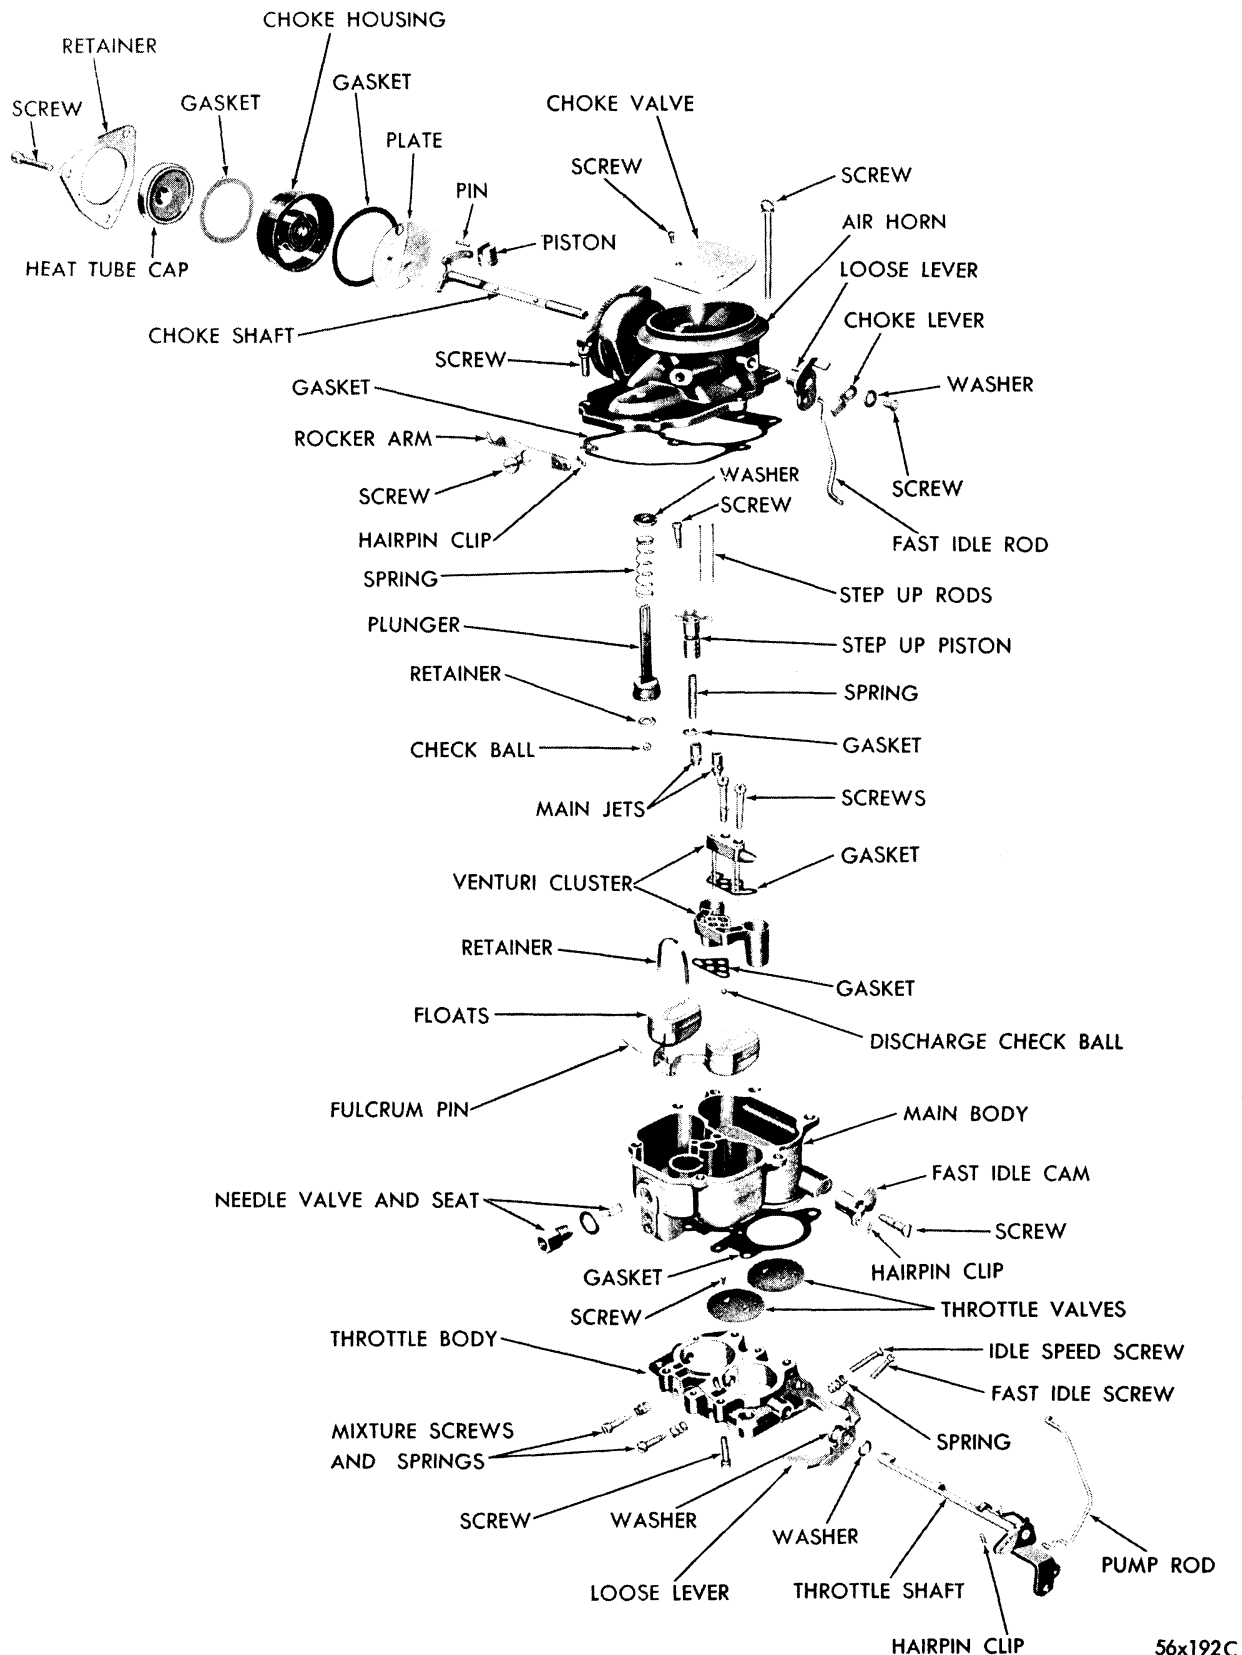

Fig. 6—Carburetor Assembly (BBD-2685S)
16. CARBURETOR DISASSEMBLY (FIG. 6)